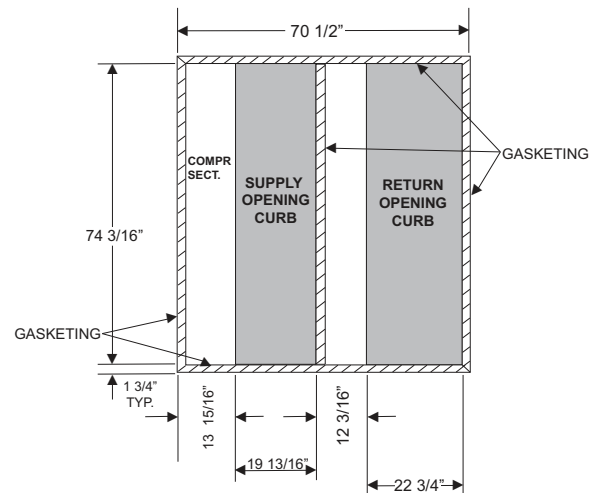

Fig. 2 - Plan View of Existing Curb Used with CRADCURB004A00
IMPORTANT: Before ordering curb adapter, contractor must confirm that dimensions of existing curb on job site matches dimensions of existing curb in Fig. 2 and 3.
A. These curb adapters are designed to fit specific existing roofcurb dimensions. The anticipated existing curb is dimensioned in Fig. 2 and 3. In the event that your specific job has an existing curb that does not meet these dimensions, this curb adapter will not fit properly.
Before ordering or installing the curb, verify that the existing curb dimensions match those in Fig. 2 and 3.
3. Measure the existing curb and make sure it matches the dimensions in Fig. 2 and 3. If the dimensions do not match, the curb adapter will not fit the curb properly.
5. Remove any gasketing on the top perimeter of the existing curb. Install new (provided) gasketing to the top perimeter of the existing curb, and around duct openings. (See Fig. 2 and 3.)